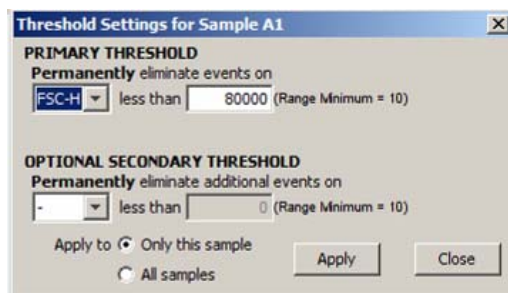

Figure 5-11 Threshold Settings
Set Threshold: Opens the Threshold dialogue box (Figure 5-11). This allows for selecting the trigger channel, setting the Primary Threshold value, and setting an **optional** Secondary Threshold. Changing the Primary Threshold to a parameter other than FSC-H will change the parameter that is being used to trigger the data collection. The threshold settings can be applied to either the sample currently being viewed or all the samples. Selecting **All Samples** will apply these settings to all of the previously collected data in the open CFLOW workspace. This command is also available directly from the Control Panel via the **Threshold** button.
19. Overlays will automatically display VirtualGain, when applied. Sample 2 now lines up with the Control and Sample 1. The VirtualGain asterisk is not displayed in Overlays when VirtualGain is applied to some or all of the samples in the overlay (Figure 5-11).